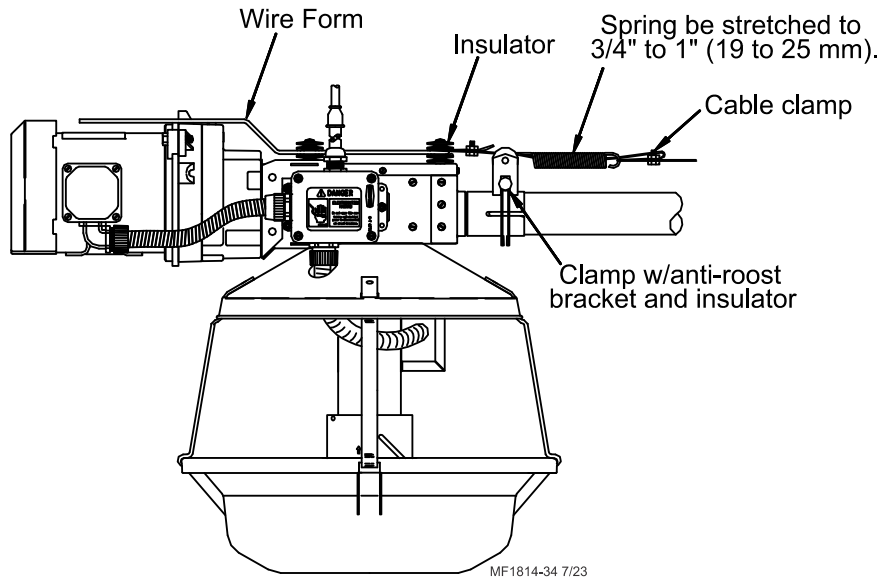

Figure 48. Anti-Roost Installation at the Control Unit
9. At the control unit, after clamping the cable to the spring, cut the cable 8" to 10" (200 to 250 mm) longer than necessary. Feed the end of the cable through the center of the spring, around the first insulator on the control unit, and clamp the cable using the cable clamp supplied with the control unit, see figure 48.
10. Install the wire from on the control unit insulators. Be sure the guard snaps into the retainers molded into the insulators, see figure 48.